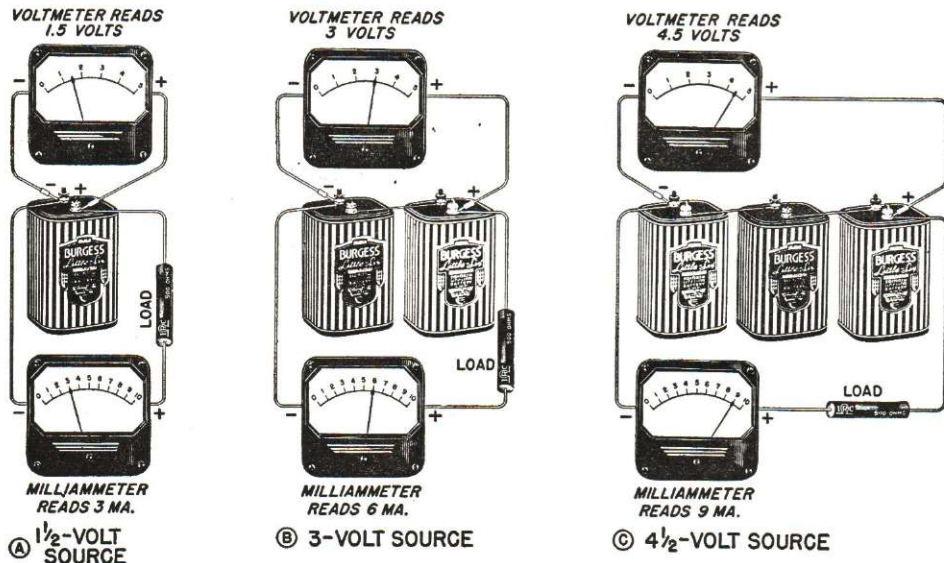

FIG. 3. These simple circuits with meters show you how voltage affects the current in a circuit.
FIG. 4B. This graph presents the results of the Fig. 3 measurements in a manner more quickly understood than the table in Fig. 4A. You will often find bar graphs like this in newspapers, where they are used to show such things as the number of homes built each month of the year.
FIG. 4C. Here's the way a radio man would present the results of his measurements for the circuits of Fig. 3. This type of graph is easily drawn, and has the added advantage that it tells what the current will be for other values of voltage besides those measured.
**What a Graph Tells.** A radio graph like that in Fig. 4C gives even more information than the original set of values. For instance, if you wanted to know what the current would be for a voltage of 2 volts in the circuit of Fig. 3, you would simply trace up from 2 volts till you hit the curve, then trace left to the current scale and read 4 ma. as the current. Try this yourself for 2.5 volts. If you get 5 ma. as the current for 2.5 volts, you have the right idea.